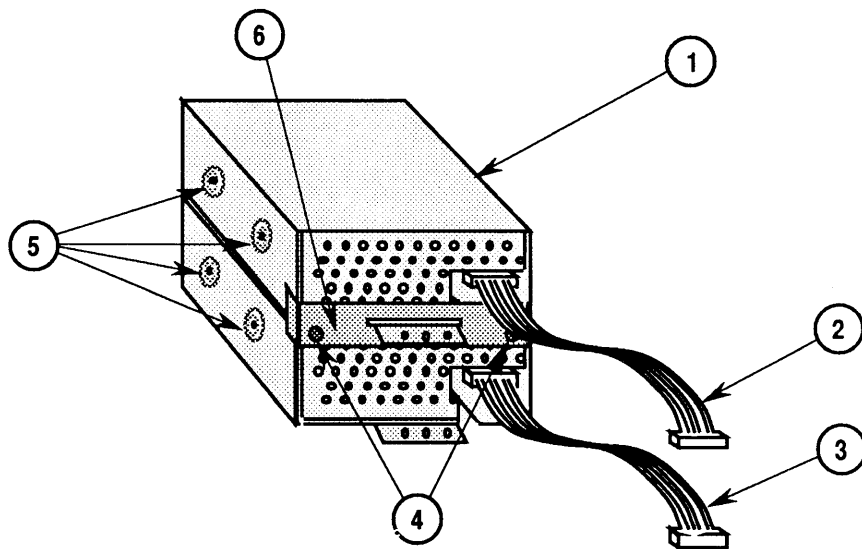

FIGURE 9
□ DUAL INTERNAL DRIVES (Figure 9)